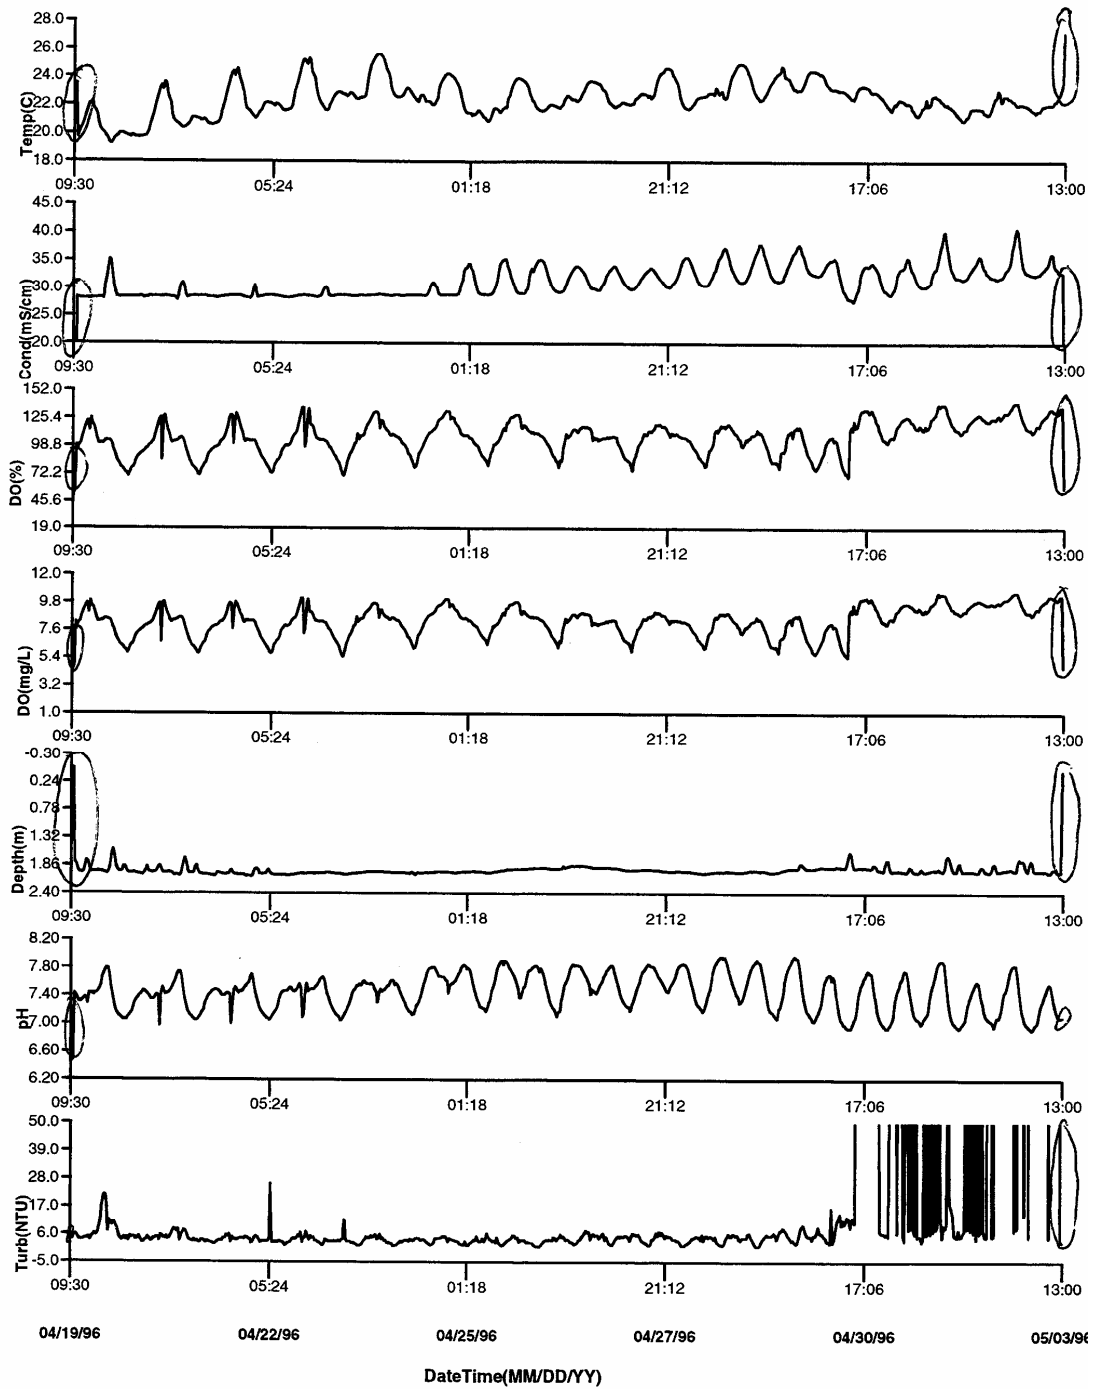

FIGURE 3
*Since the data from most all other sensors (salinity, specific conductivity, depth, dissolved oxygen mg/L, pH, turbidity and chlorophyll-a) is temperature compensated using the values from the thermistor, all values for all logged parameters (**EXCEPT percent saturation and conductivity**) after a temperature probe failure should be viewed as suspect and eliminated from the official record. Thus, because of the ubiquity of temperature compensation, failure of the temperature sensor is particularly serious for the overall data record. This is demonstrated in Figure 3 where the temperature sensor failed during the study. However, remember that temperature probe failure is extremely rare.*